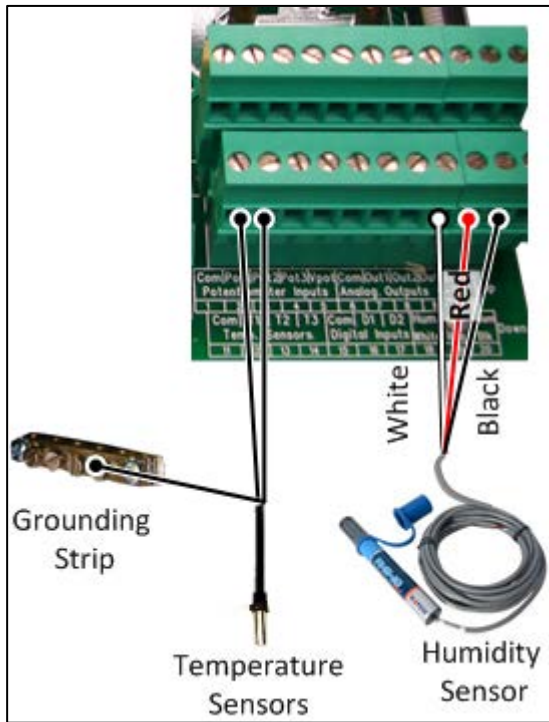

Figure 6: Analog Sensor Wiring
- Figure 6: Analog Sensor Wiring